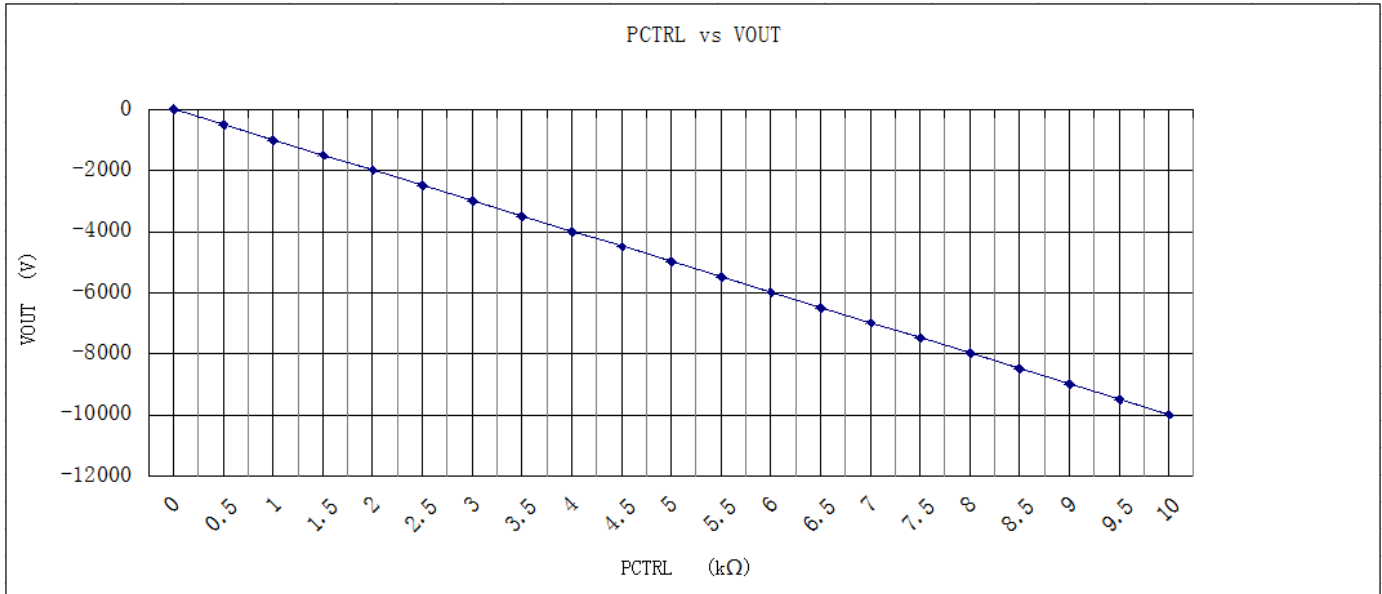

Figure 4. PCTRL vs. VOUT
5. HV adjustment: 10-turn potentiometer for adjusting output voltage. Rotate it clockwise to increase the output voltage, and the potentiometer resistance = the corresponding scale \times 10 Ω . For example, as Figure 4 shows, when the scale is 10, and the frame above the scale shows 1 (1k Ω), then the resistance = 10 \times 10 Ω +1k Ω =1.1k Ω , and the like.